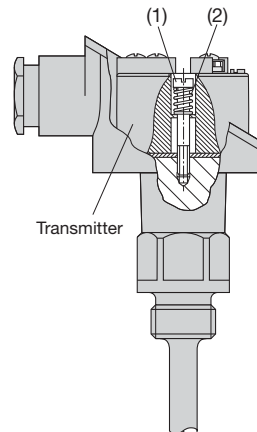

Fig. 3. Spring mounting on the insert in the terminal lead.
Thread the leads through the hole in the centre of the transmitter. Align the transmitter in the lower part of the terminal head and secure it using two chease-headed screws (1) and two springs (2) (see Fig. 3). Connect the leads acc. to section "7. Electrical connections".